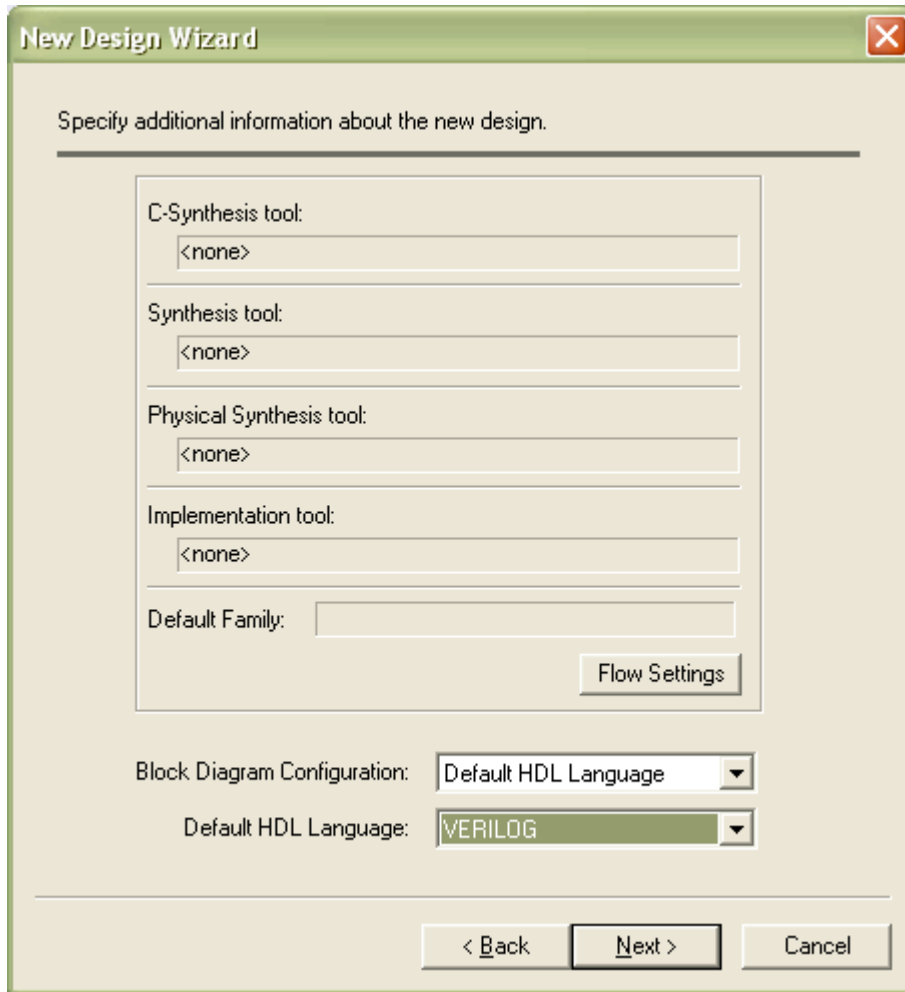

Figure 4
2. Find the “Block Diagram Configuration” field and select the “Default HDL Language” option. Make sure the “Default HDL Language” field is set to “VERILOG.” Your New Design Wizard window should look like Figure 4. If so, then click the Next button.